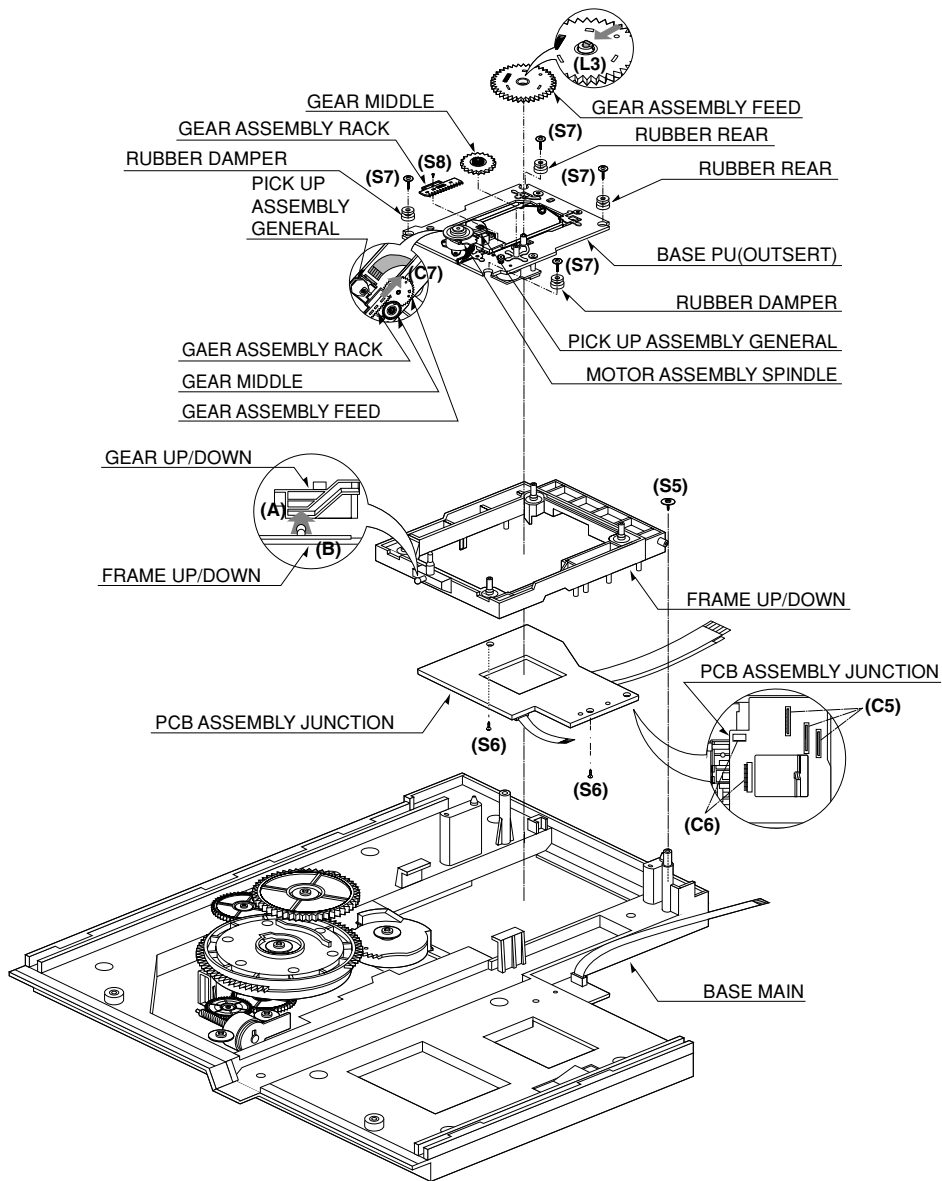

Fig. 4-3
3. Frame Assembly Up/Down (Fig. 4-3)